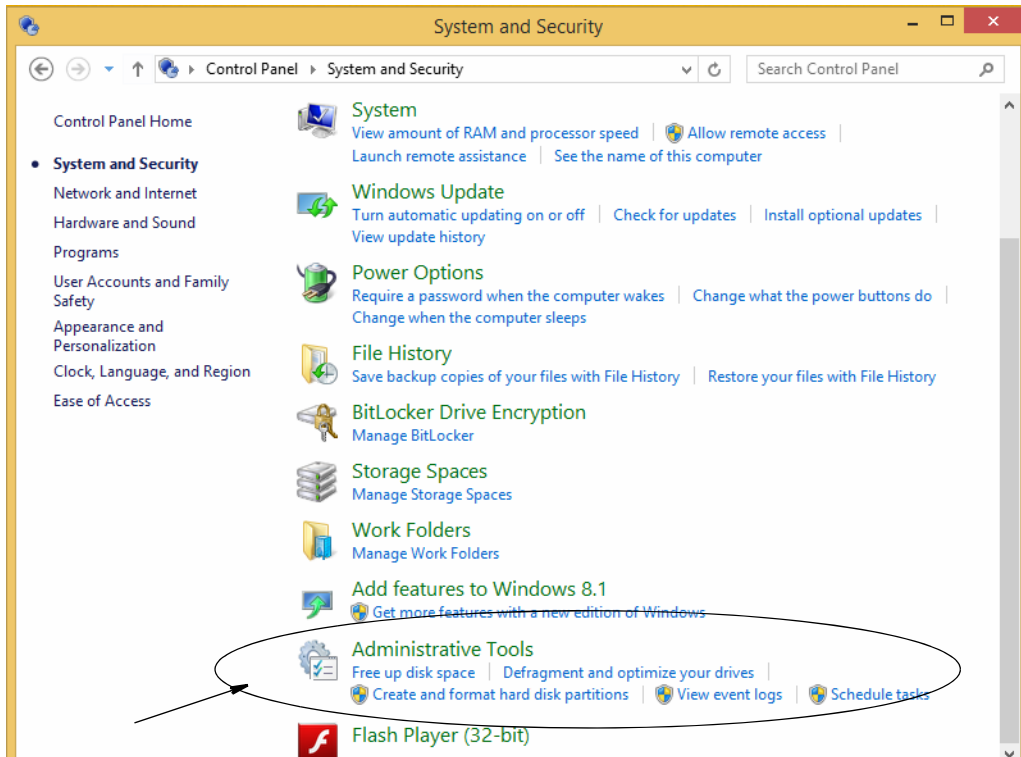

FIG. 204
- a. Access the control panel and select System and Security. Double click on the Administrative Tools link (FIG. 204).